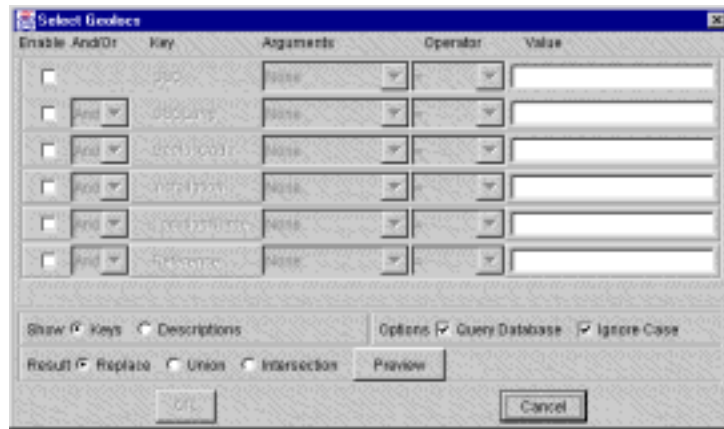

Figure 5.166 Select Geolocs Window
- Click  (Select Geolocs). The Select Geolocs window opens (Figure 5.166).